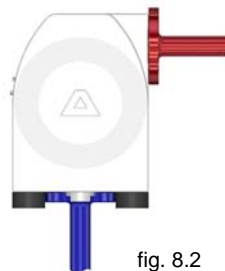

fig. 8.2
- Suction inlet vertically at the bottom, the discharge outlet horizontally at the top (figure 8.2)